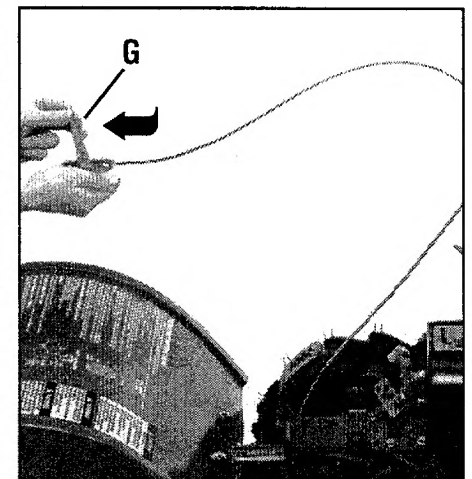

Figure 2-7: Put Wheel Gear Lever in DISENGAGE position.
- (a) Move the Wheel Gear Lever (G, Figure 2-7) to the DISENGAGE position (this allows the wheels to rotate). Carefully unwrap the wheel gear cable from around the unit before moving the lever. Use this DISENGAGE mode only when the engine is not running. Before starting the engine, the Wheel Gear Lever must be placed in the ENGAGE position (see Section 3 for details).